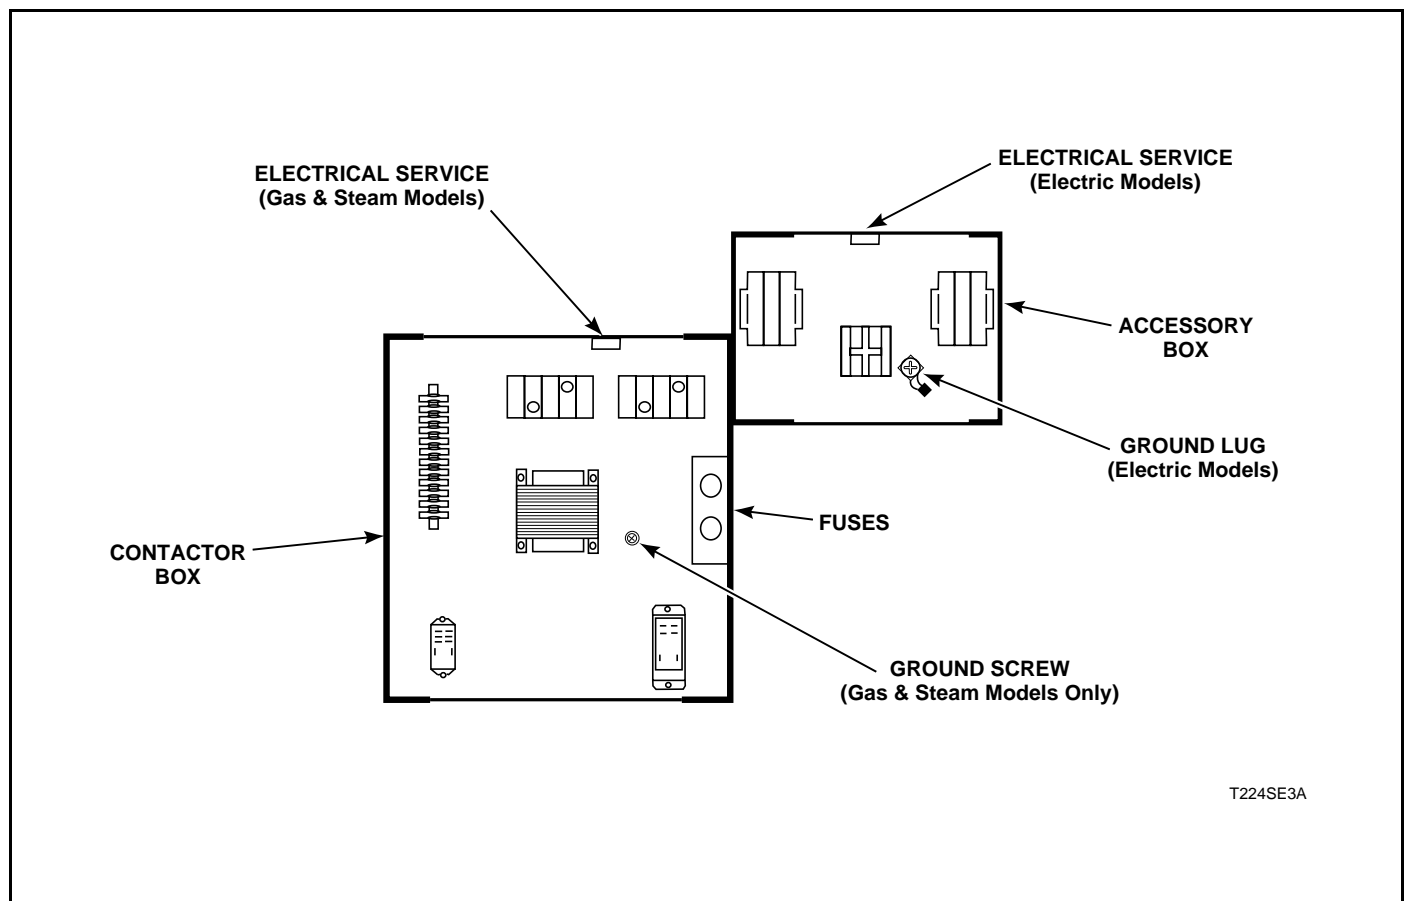

Figure 16
2. Connect the conduit-encased leads to the disconnect switch, or circuit breaker. Connect the wire leads to the appropriately labeled terminal on the terminal block. The ground wire must be connected to the ground connection as shown in *Figure 16*.